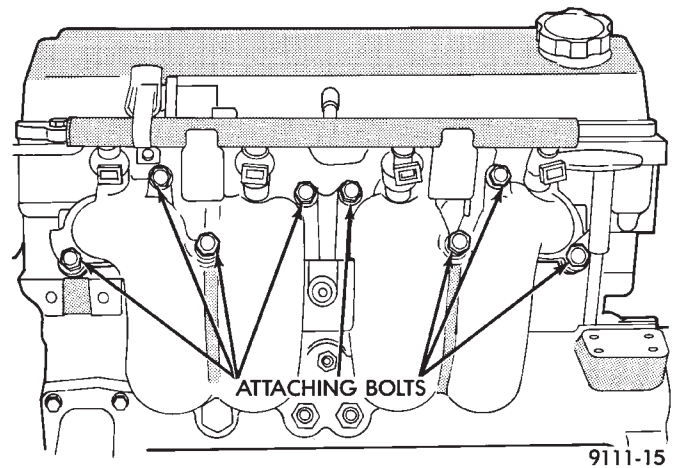

Fig. 10 Intake Manifold Attaching Bolts.
(12) Remove 8 intake manifold screws and washer assemblies and remove intake manifold (Fig. 10).
(1) Install new intake manifold gasket and intake manifold onto cylinder head and tighten fasteners to 23 N•m (200 in. lbs.) torque (Fig. 10).